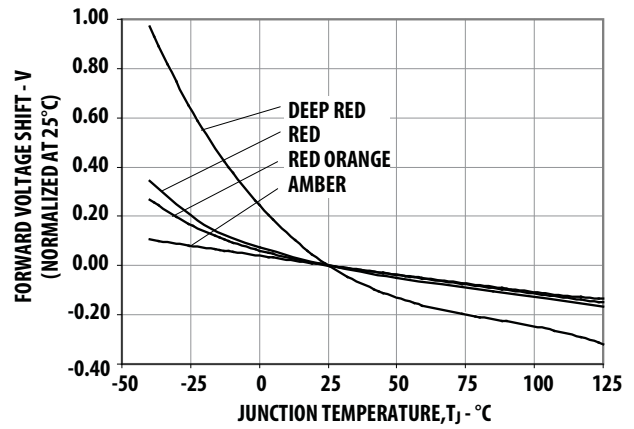
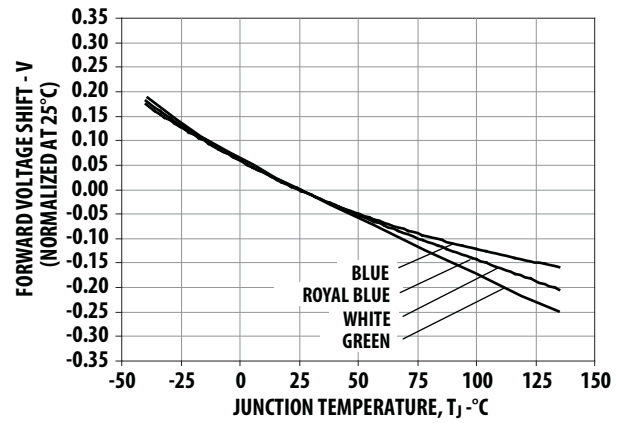

Figure 9. Forward Voltage Shift vs. Junction Temperature.
Figure 21. Forward Voltage Shift vs. Junction Temperature.
1. Derate linearly based on Figure 9 for AlInGaP and Figure 21 for InGaN.